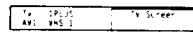

Fig. 42.
- 2 Select TV Screen (input source for the TV screen), PIP(input source for the PIP screen), or output (output source) with  $\triangleleft$  or  $\triangleright$  and press OK. One of the source items changes colour. (See Fig. 42)